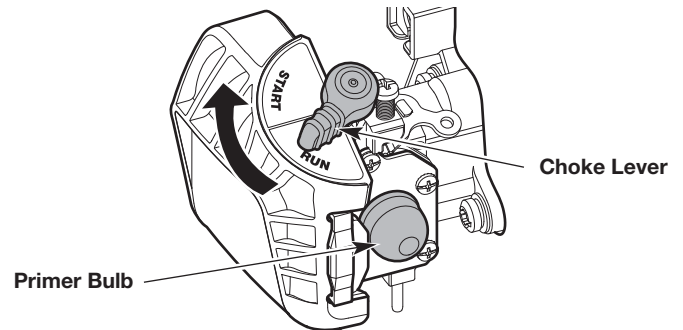

Fig. 4
- Slowly press and release the primer bulb **10 times** (Fig. 4). If fuel cannot be seen in the primer bulb, press and release the primer bulb until fuel is visible.
- DO NOT** squeeze the throttle control. Flip the choke lever clockwise until it clicks into the **START** position (Fig. 4).